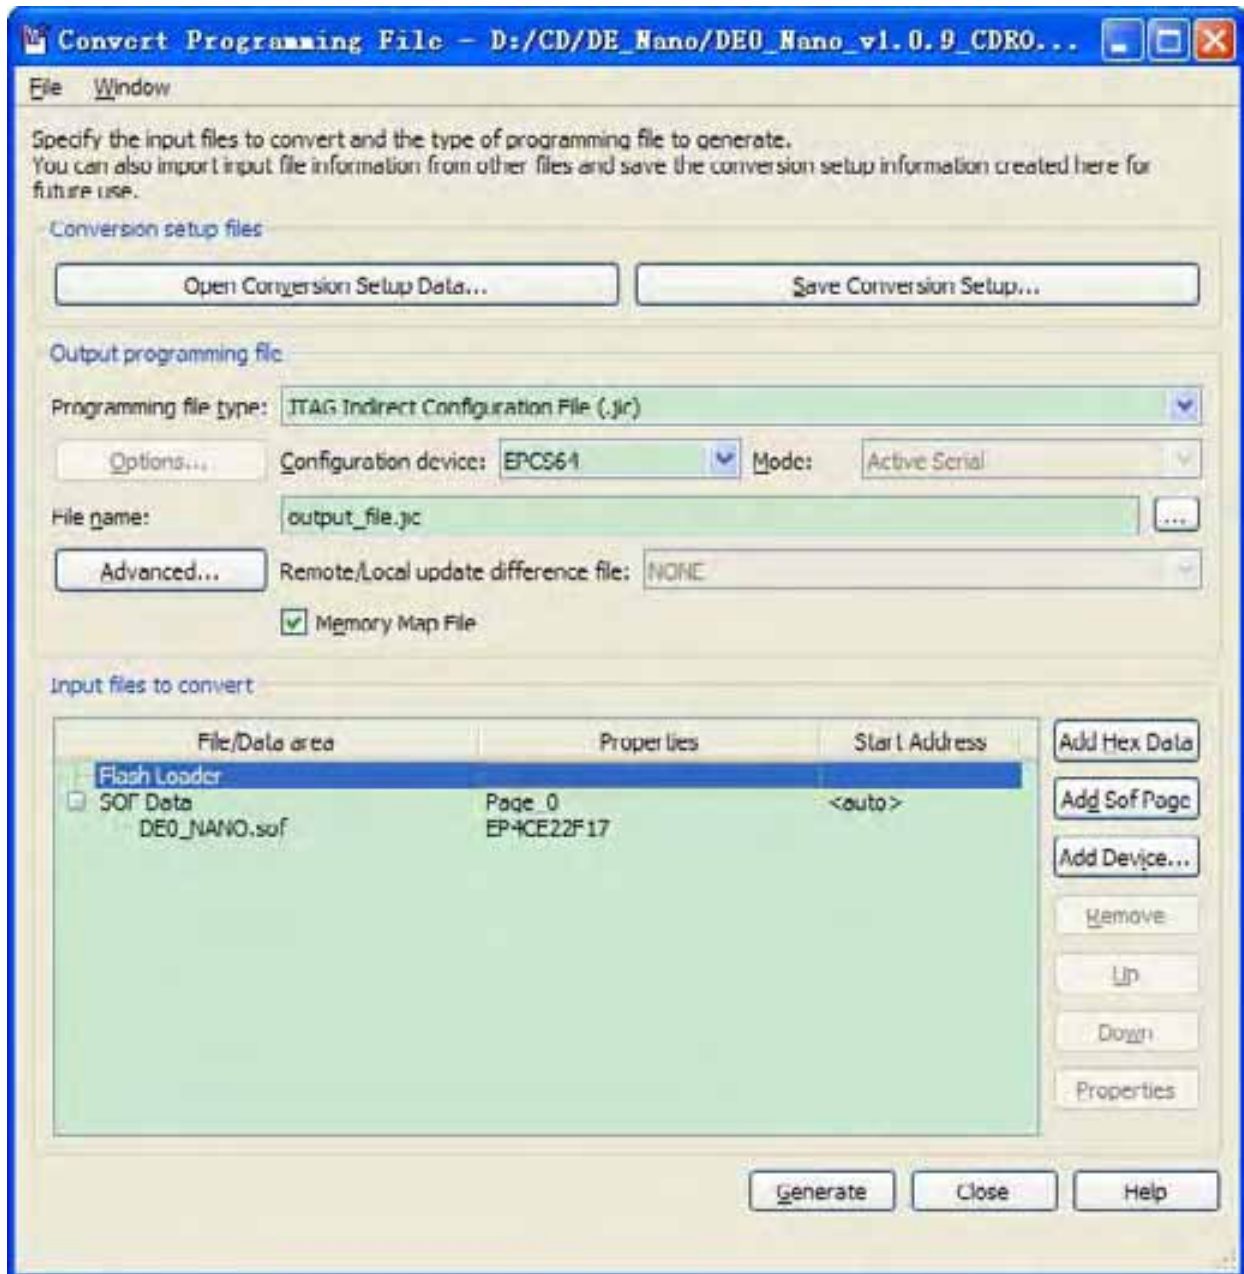

Figure 9-2 Highlight Flash Loader
9. Highlight the Flash Loader and click **Add Device**, as shown in **Figure 9-2**.